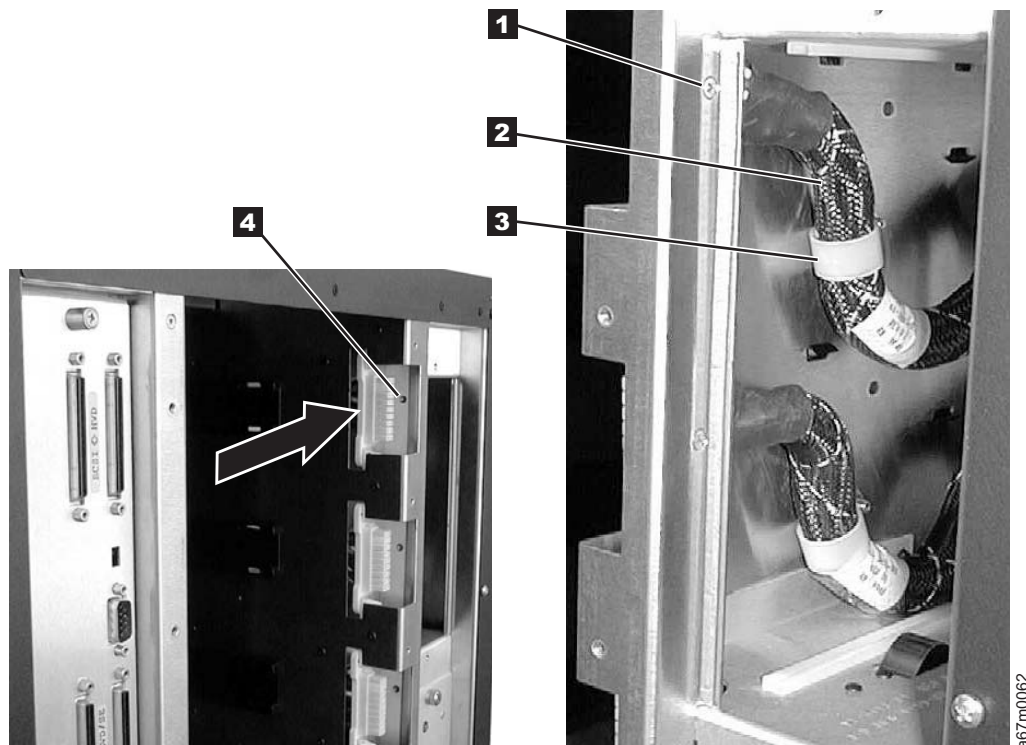

Figure 8-23. Power Distribution to Drive Sled Cable Removal and Replacement
See Figure 8-23 for locations of components in the following procedure.
6. See Figure 8-23 for step 6 through step 9. Disconnect the failing cable **2** from the Power Distribution Board.